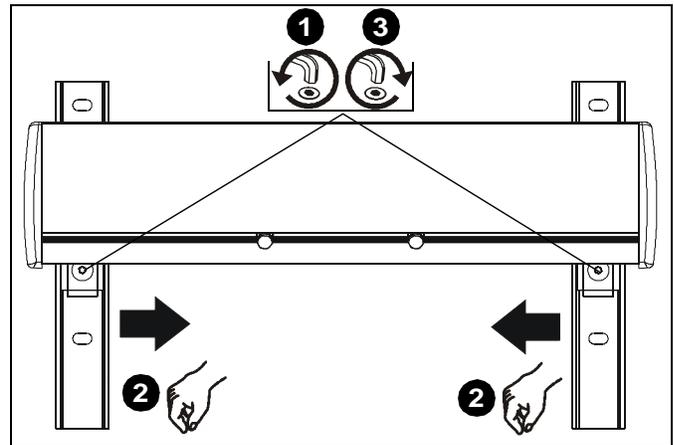

Figure 34
1. Loosen two flat head cap screws on wall bracket. (See Figure 34)
2. Slide wall brackets to corresponding width of studs. (See Figure 34)
3. Tighten two flat head cap screws on wall bracket. (See Figure 34)